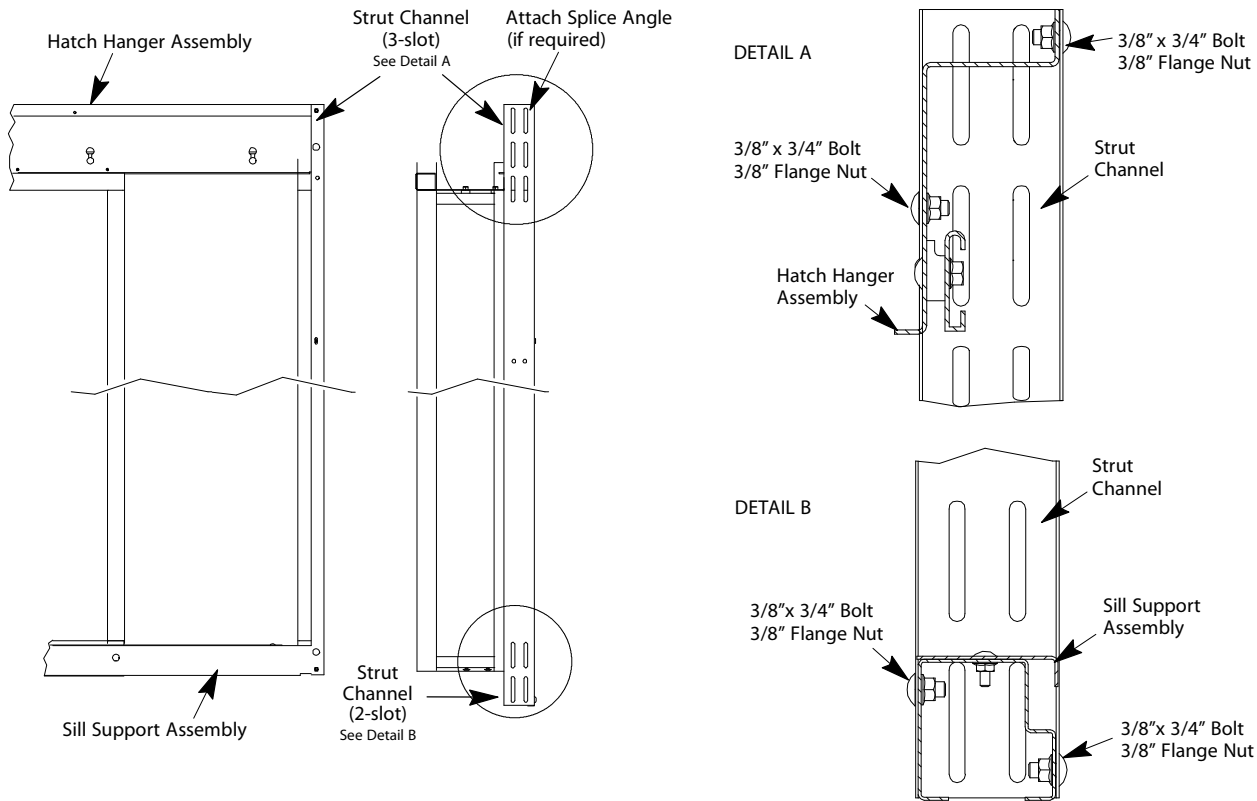

Figure 12 - Strut Channel Installation
7. Use 3/8" x 3/4" bolts to install the strut channels to the header. See Figure 12.